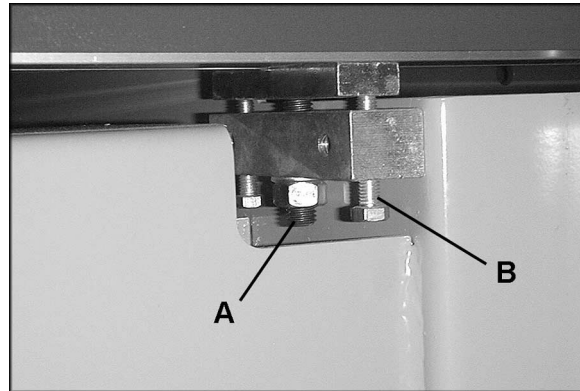

Figure 20
1. The bolts (B, Figure 20) are used to adjust the height of the sliding table. They are pre-set at the factory.
2. Use bolts (A, Figure 20) to correct parallelism between sliding table and saw blade.